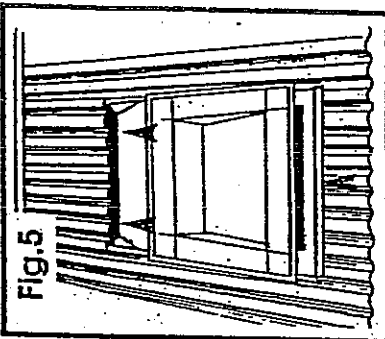

Fig. 5
5. To fit the Flashing Tray Assembly push the soaker end (i.e. with turned up ribs) under the corrugated iron roofing sheet until the turned down cut outs strike the cut edge of the sheet. (See Fig.5)